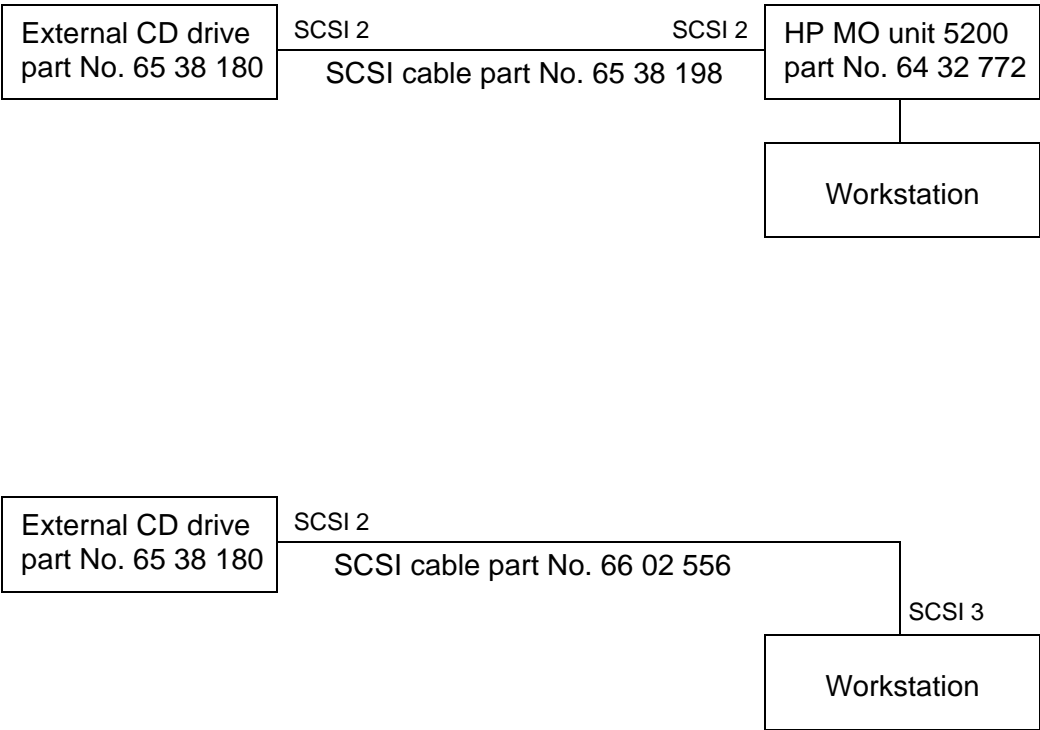

Fig. 2 SCSI cables
2. Connect the SCSI cable from the CD drive according to Fig. 2.